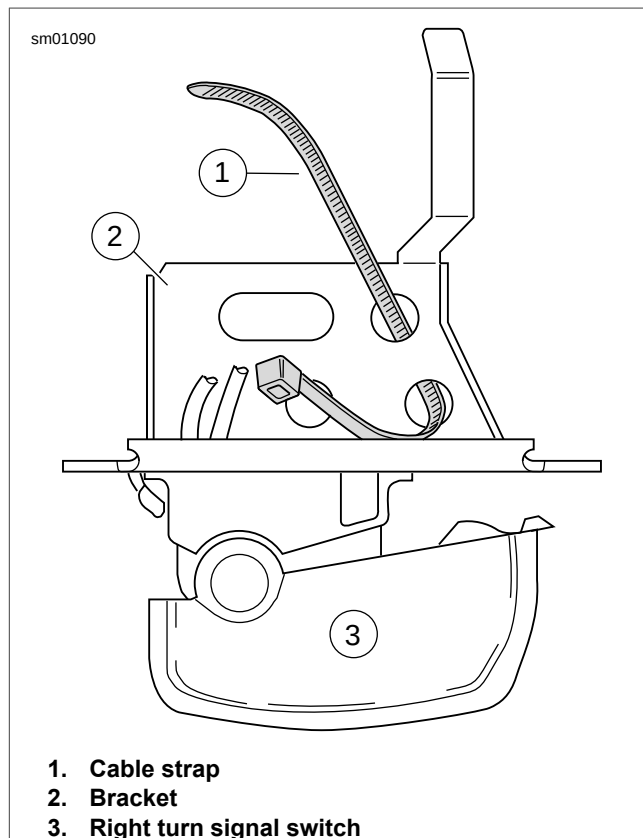

Figure 7-60. Insert Cable Strap in Switch Bracket
1. See Figure 7-60. Insert tapered end of **new** 177.8 mm (7.0 in) cable strap (1) into round hole in turn signal switch bracket (2) and then feed back through using the adjacent hole. Reserve the oblong hole for the bracket screw.